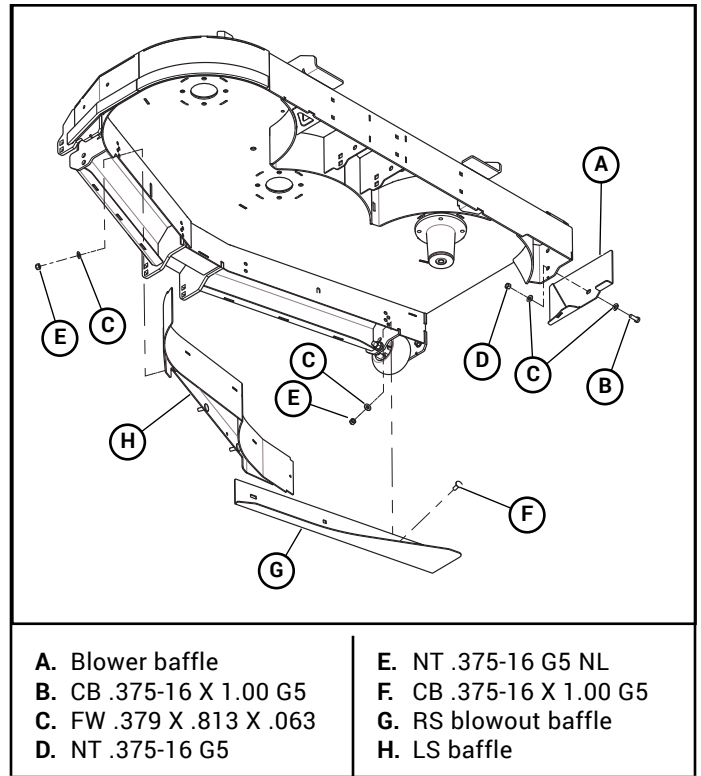

Figure 3-23
6. Attach the deck blowout baffle to the underneath side of the deck. Figure 3-23.
7. Attach the blower baffle to the deck. Figure 3-23
8. Before installing the LS Blower (Leaf) Baffle, Ref. H, refer to the Operation section of this manual for detailed information on the installation and use of the LS Blower (Leaf) Baffle. Figure 3-23.